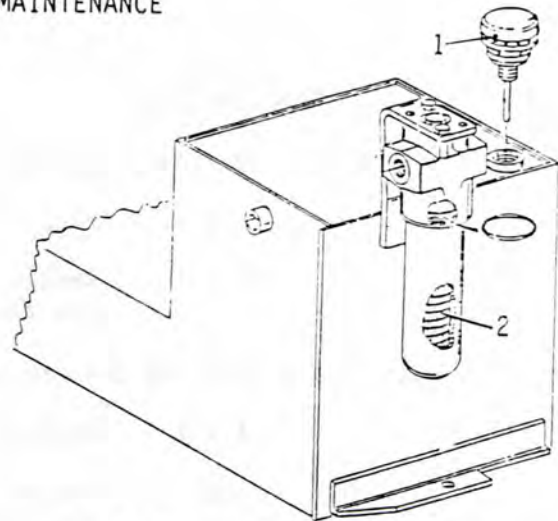

Fig. 26 Hydraulic Oil Tank
Unscrew the breather/filter and dipstick (1 Fig. 26) and clean using a solvent or pressure air.
2.2.1 Unscrew the hydraulic oil filter cannister (2 Fig. 26) and renew the filter cartridge. Fit also a new 'O' Ring.
Remove the breather/filter (1 Fig. 26) and suck out the hydraulic oil. If this is not practical (e.g. no suction pump available) the tank can be emptied by removing the oil drain plug from the underside of the hydraulic oil tank.
3.2.2 Remove the breather/filter (1 Fig. 26) and pour in clean, new hydraulic oil until the level reaches the upper mark on the dipstick.
3.3.1 With the cab (and auxiliary lift mast) fully lowered check that the hydraulic oil level is between the max. and min. marks on the dipstick (1 Fig. 26).